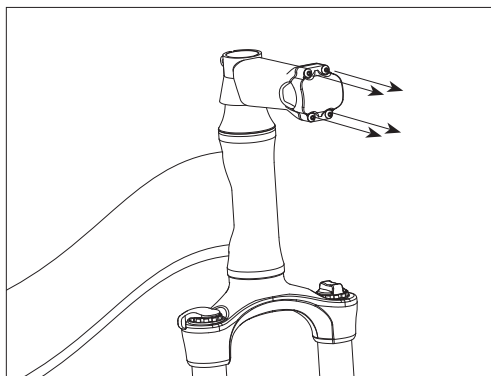

Fig. 7: Remove the stem clamp.
1. Using the provided hex wrench, remove the two screws (or four, depending on model) holding the stem clamp in place (Fig. 7).